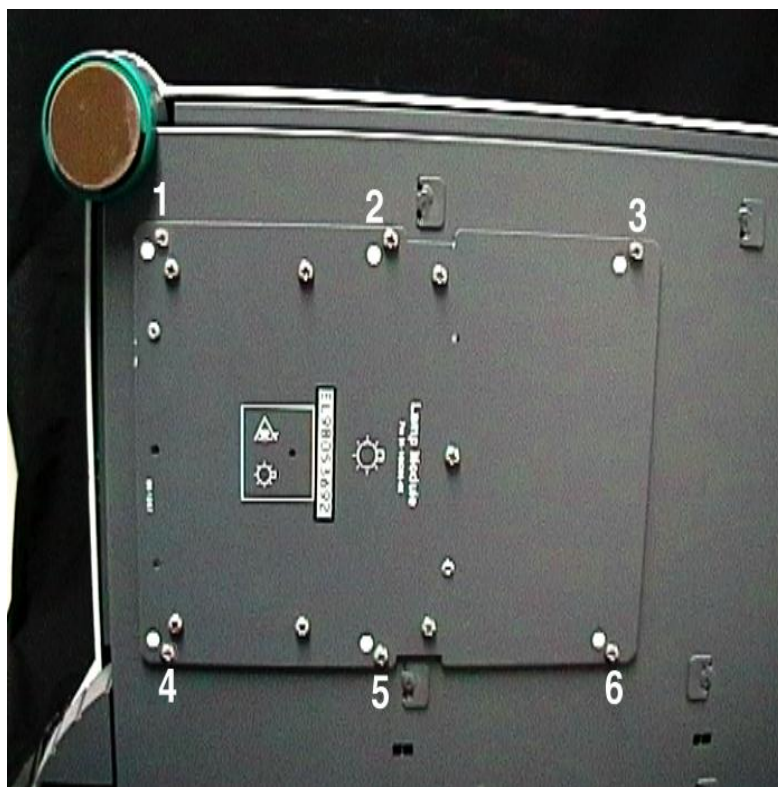

Figure 3. Underneath the Cary 50. The six screws to be removed are numbered
- 3 Using a star head screwdriver, undo and remove the six screws marked by the white solid circles on the lamp module cover (refer to Figure 3). As you remove the last screw, use one hand to support the lamp module.